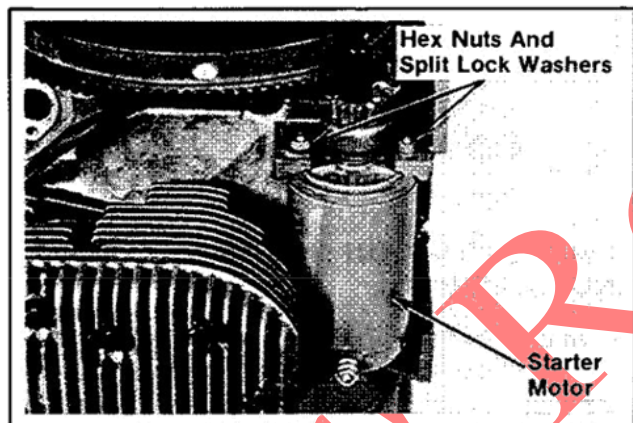

Figure 9-20. Removing Electric Starter.
1. Remove the hex nuts, split lock washers, and starter motor from crankcase. Refer to Figure 9-20.